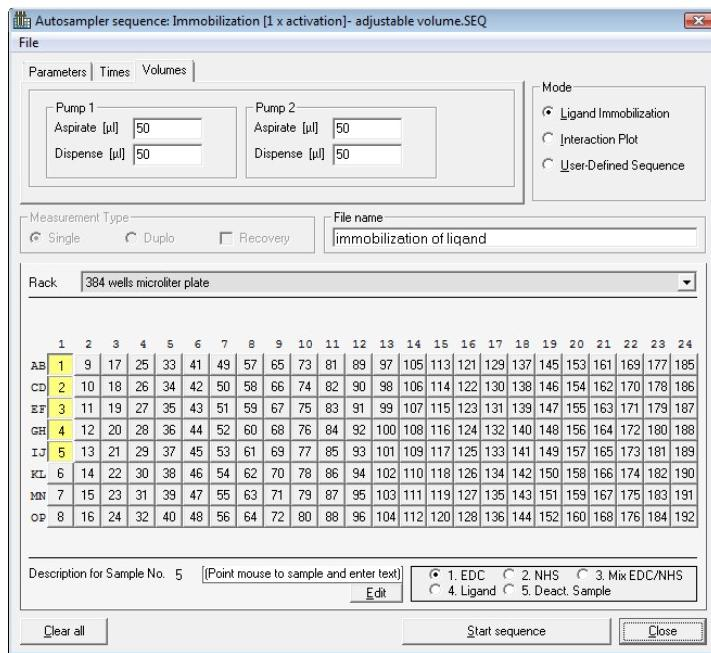

Figure 3.23 – The autosampler window with the ligand immobilization layout.
- After selecting the ‘ligand immobilization’ MODE, the autosampler window changes its layout (Figure 3.23). The title bar displays the name of the linked sequence.